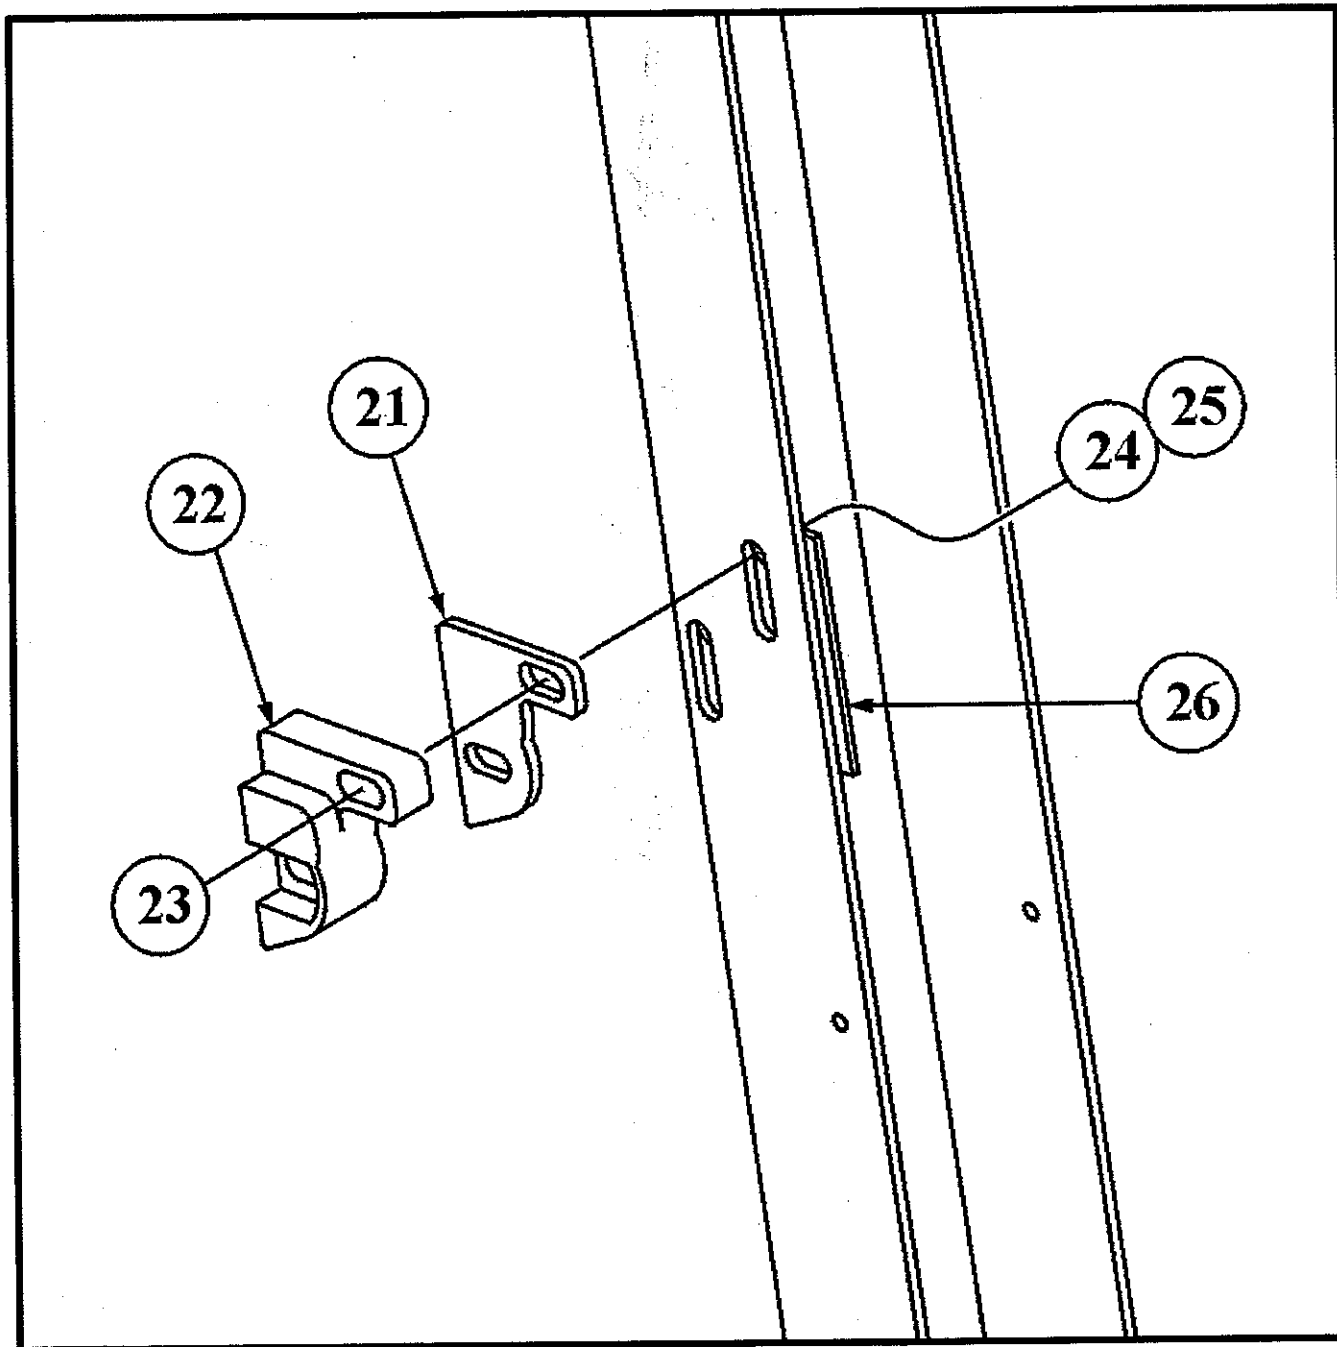

Figure 2—Install Latch
5. Install male thread rod end (11) into linkage assembly (3) with jam nut (14).
6. Preset linkage assembly to 18 inches from face of tube to center of rod end. (See Figure 2—Install Latch)
8. Install gas spring stud (16).
9. Install 200 lbf gas spring stud (10).